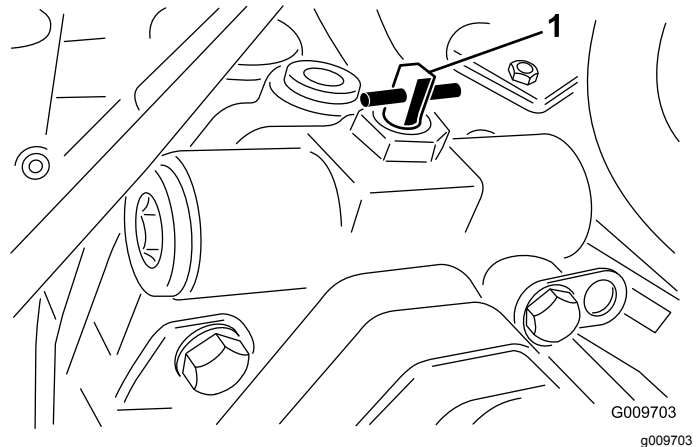

Figure 23
2. Rotate the bypass valve 90° (1/4 turn) in either direction to open and allow oil to bypass internally (Figure 23).